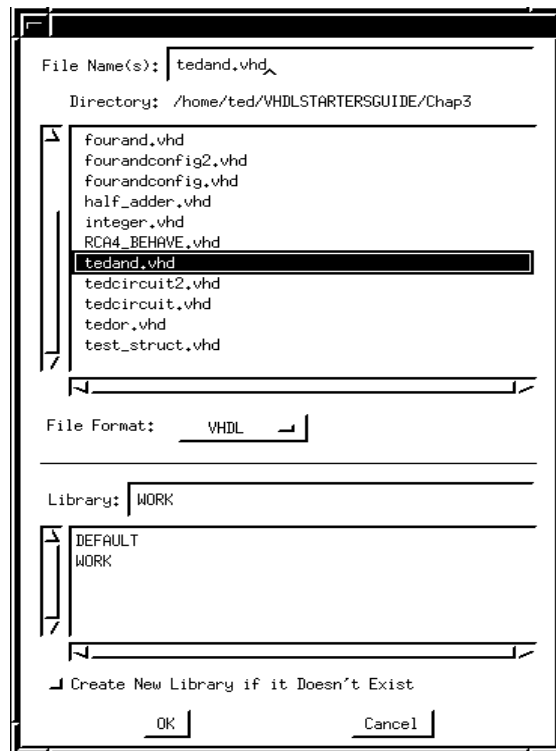

Figure 10: Analyze File window.
(2) From this window, Select File -> Analyze. A new Analyze File window will appear as shown in figure 10. From this window, select tedand.vhd from the file list and make surve that the File Foramt is set to VHDL. Select OK.
(3) Repeat the steps given in (2) to analyze the files tedor.vhd, and tedcircuit.vhd. Note the order of analysis.